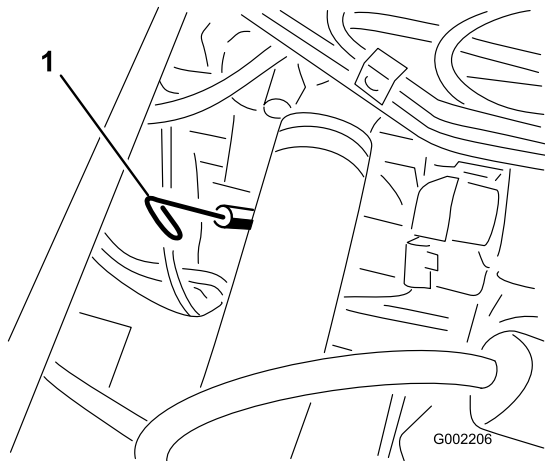

Figure 39
2. Remove the dipstick, located under the passenger seat, and wipe it with a clean rag (Figure 39). Insert
13. Remove the oil filler cap and slowly pour approximately 80% of the specified amount of oil into the engine at the oil filler (Figure 39).